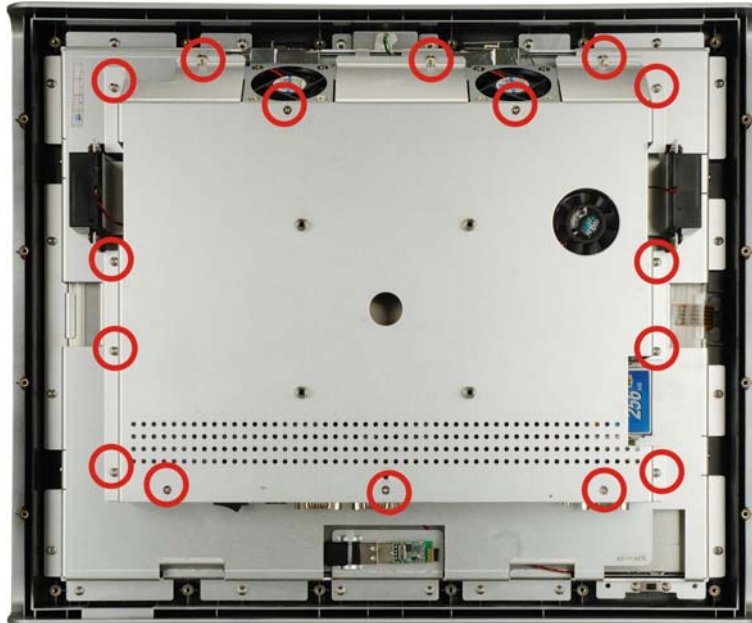

Figure 3-4: Aluminum Back Cover Retention Screws
Step 3: Remove the eight round head retention screws and three flat head retention screws securing the internal aluminum cover (**Figure 3-4**).